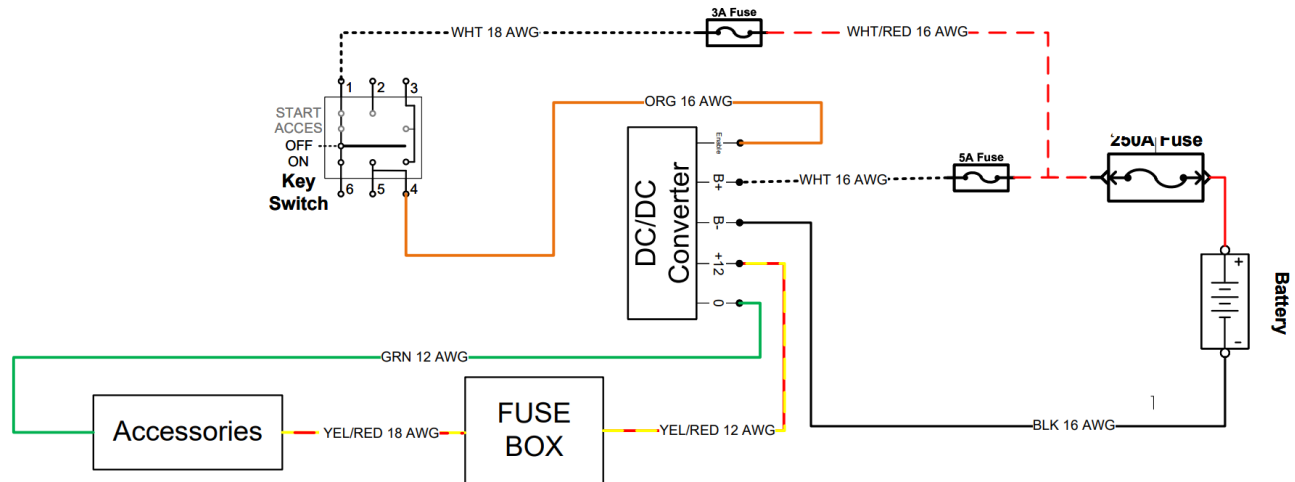

Figure 63. DC/DC Converter Input and Output Terminals Inspection.
- 1.1. Check for the presence of voltage between the positive terminal (B+) (White Wire) and the negative terminal (B-) (Black Wire) of the DC/DC converter (As shown in Figure 63).
- 1.2. Check for the presence of voltage between the range wire and the negative terminal (B-) (Black Wire) of the DC/DC converter (As shown in Figure 63).
- 2.1. Check for the presence of voltage between the yellow/red wire and the green wire of the DC/DC converter (As shown in Figure 63).